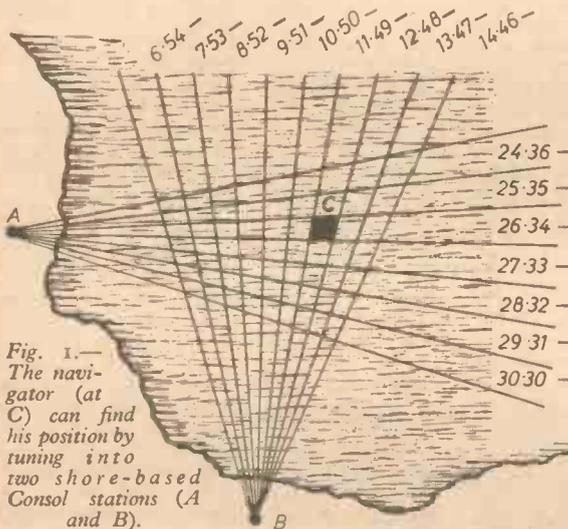

Fig. 1.—The navigator (at C) can find his position by tuning into two shore-based Consol stations (A and B).
Look at Fig. 1; this shows two Consol transmitting stations (A) and (B). Each station sends out a series of very narrow beamed signals, the signals being identified by different numbers of dots and dashes. Suppose the radio navigator is located at (C) and that first of all he tunes into station (A).